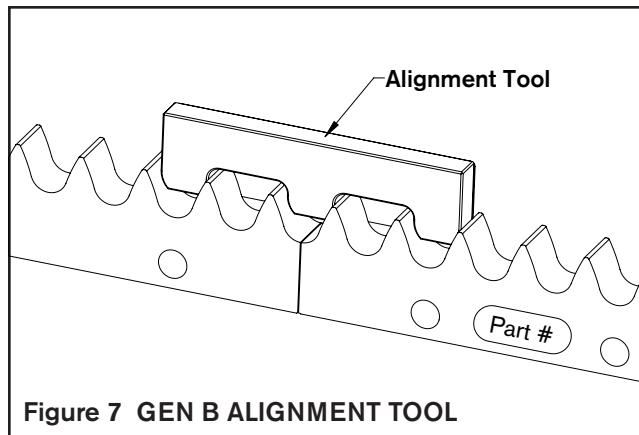

Figure 7 GEN B ALIGNMENT TOOL
8. Mount the Alignment Tool between the two racks utilizing the adjacent tooth roots of each rack while being careful not to damage the rack or alignment tool as shown in Figures 7 and 8. The GEN B alignment tool has a different appearance but functions the same and has no bolt down provisions. It is hand pressed into place to set the rack spacing as described on the next page.